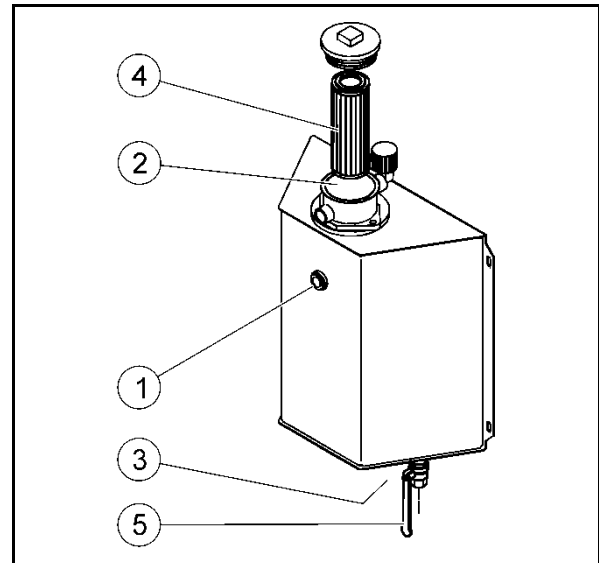

Fig. 65
Ensure that the stop valve (5) is open before each start-up. Fig. 65 shows the open stop valve (5).